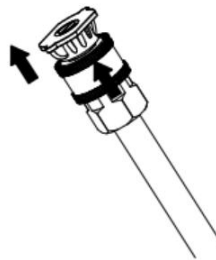

Fig.9
- Discount a nozzle as shown in Fig.9.